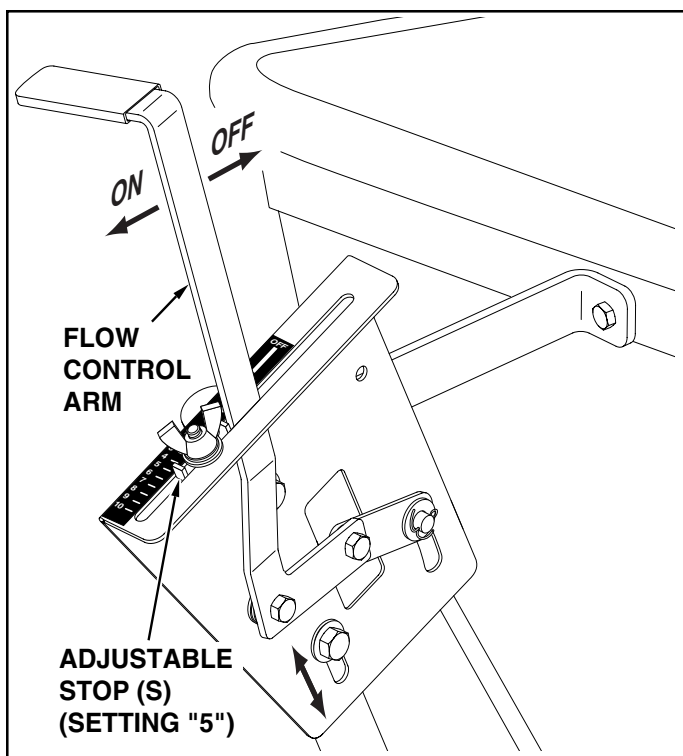

FIGURE 12
24. Position the flow control mounting bracket (figure 12).
(Refer to figure 12 on page 8.)